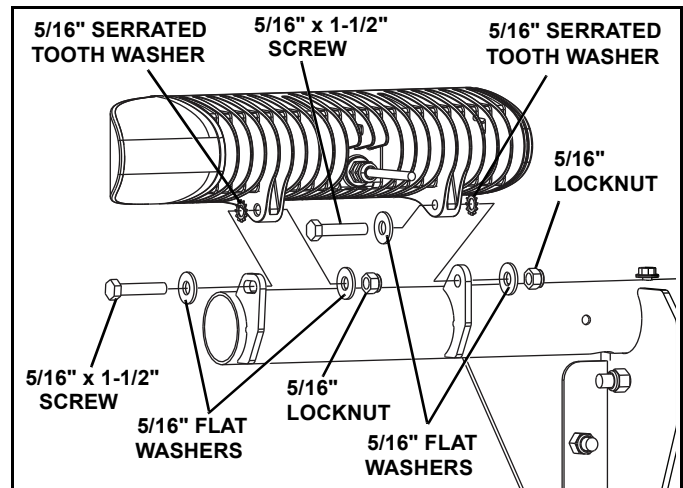

Figure 1-14
21. Place Drivers Side headlamp on top of lightbar with the headlamp tabs inside of the lightbar tabs. Insert (2) 5/16" x 1-1/2" screws, and (4) 5/16" washers. Screws must be inserted from the outside of the plow to the center. Place (2) 5/16" serrated tooth washers between the headlamp and lightbar tabs. Secure with (2) 5/16" lock nuts. Do not tighten (See Figure 1-14).
25. Aim plow lights with plow in the fully raised position. Lock the lamps in the adjusted position by tightening two 5/16" x 1-1/2" screws (See Figure 1-14)